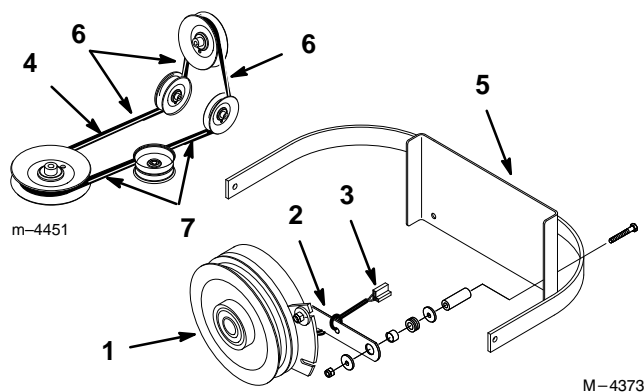

Figure 9
IMPORTANT: Check the amount of twist in belt between pulleys. Make sure it is only what is specified in figure 9.
2. Install clutch retaining strap and plug clutch terminal into main wire harness (Fig. 9).